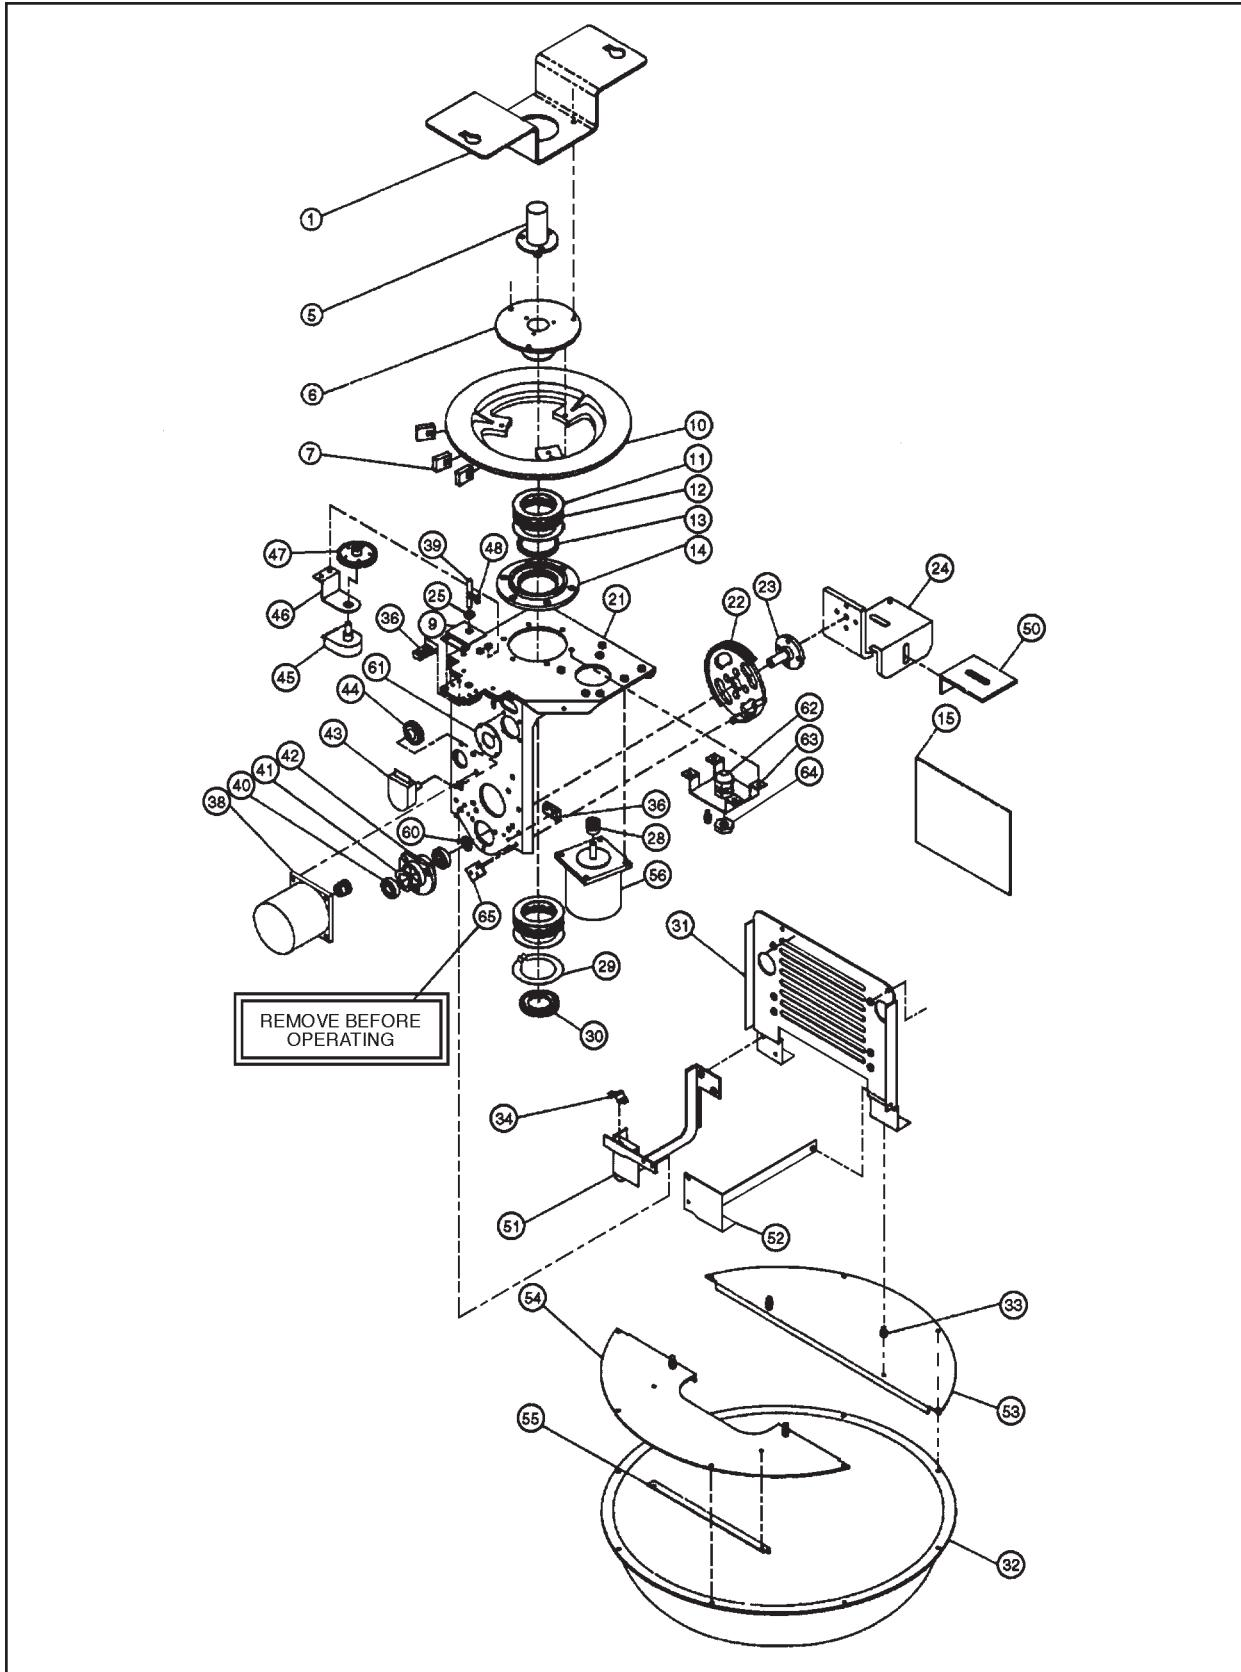

Figure 14. SB2600 Series Pan/Tilt Exploded Assembly Diagram
**NOTE:** Remove "shipping bracket" at this time. Refer to Figure 14, item 65.
Refer to Figure 13 for an exploded assembly diagram of the SB26 Enclosure, Figures 14 and 15 for the SB2600 Series Pan/Tilt, and Figure 16 for the SB26 fixed mount.